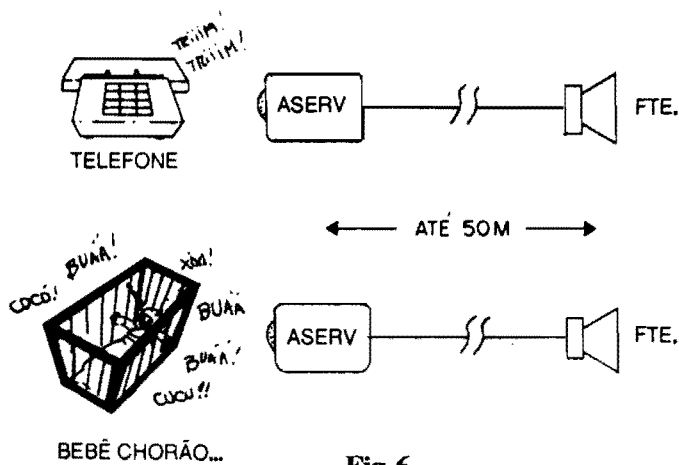

Fig. 6
**- FIG. 6 - ALGUMAS SUGESTÕES